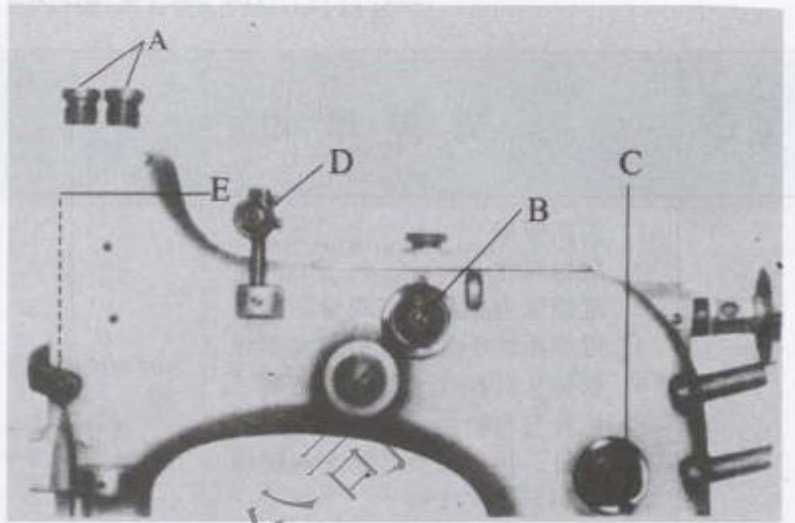

图10 Fig.10
压脚压力的大小，取决于缝料的厚度，缝薄料时减少压力；反之，则增大压力。当缝料推送顺畅，针迹均匀时切勿再增大压力，以减缓机件磨损。调节压力时旋进两只调压螺套（图10，A）可增大压力，施出则减少压力。
缝线张力由夹线器(图10, B、C)调节, 通常面线(B)张力要比底线(C)的张力大。旋进夹线器螺母(B、C)使张力增大, 旋出则减少。
Thread tension is adjusted by thread tension assembly (B, C, Fig. 10). Tension of upper thread (B) is generally stronger than that of lower thread (C). Turn thread tensioner nut (B, C) in to increase the tension, turn it out to decrease the tension. If the stitch is still not good, should adjust the height of thread adjusting bar (D). The height of the thread adjusting bar (D) is at the same level with the thread eye of the needle bar connection at its highest position.